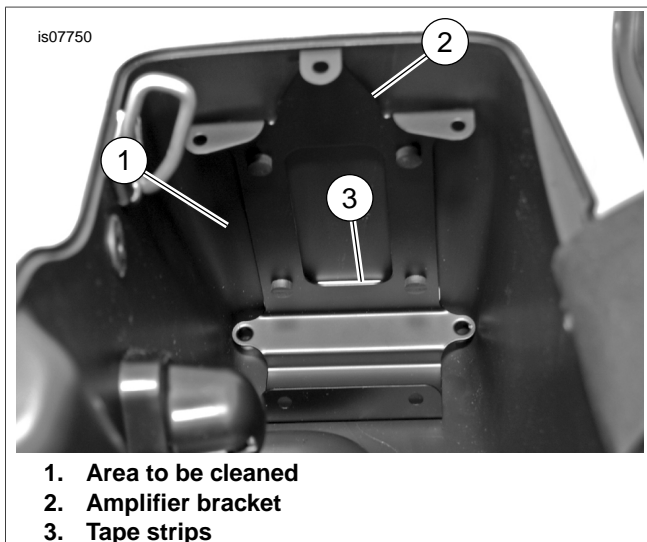

Figure 5. Amplifier Bracket Installation
5. See Figure 5. Clean the inside rear and bottom surfaces of the saddlebag with a mixture of 50-70 percent isopropyl alcohol and 30-50 percent distilled water. Remove the four pieces of protective backing from the amplifier bracket tape strips and position as shown.